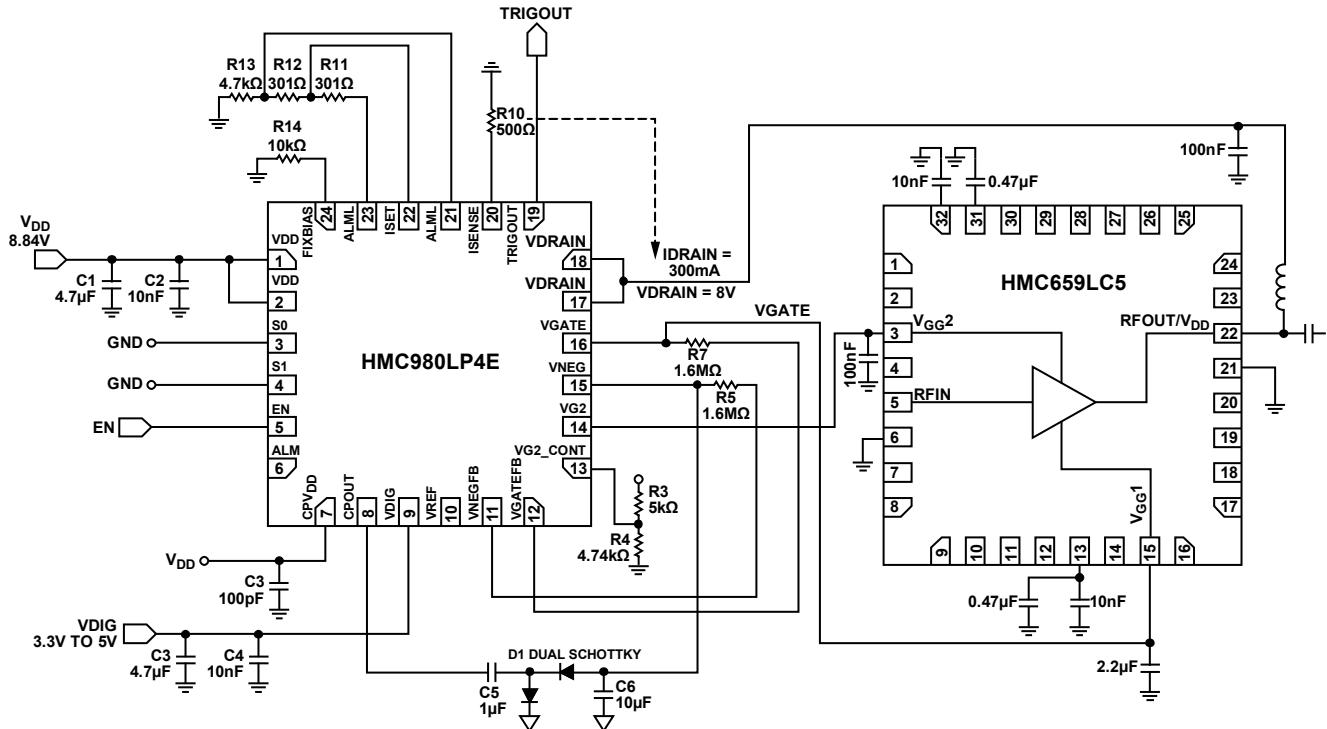

Figure 28. Application Circuit for Biasing the HMC659LC5 with the HMC980LP4E
- The shunt V_{GGX} capacitors value can be reduced to increase the rise time (see HMC659LC5 in Figure 28). Refer to the Reducing VGATE Rise Time section for further details.